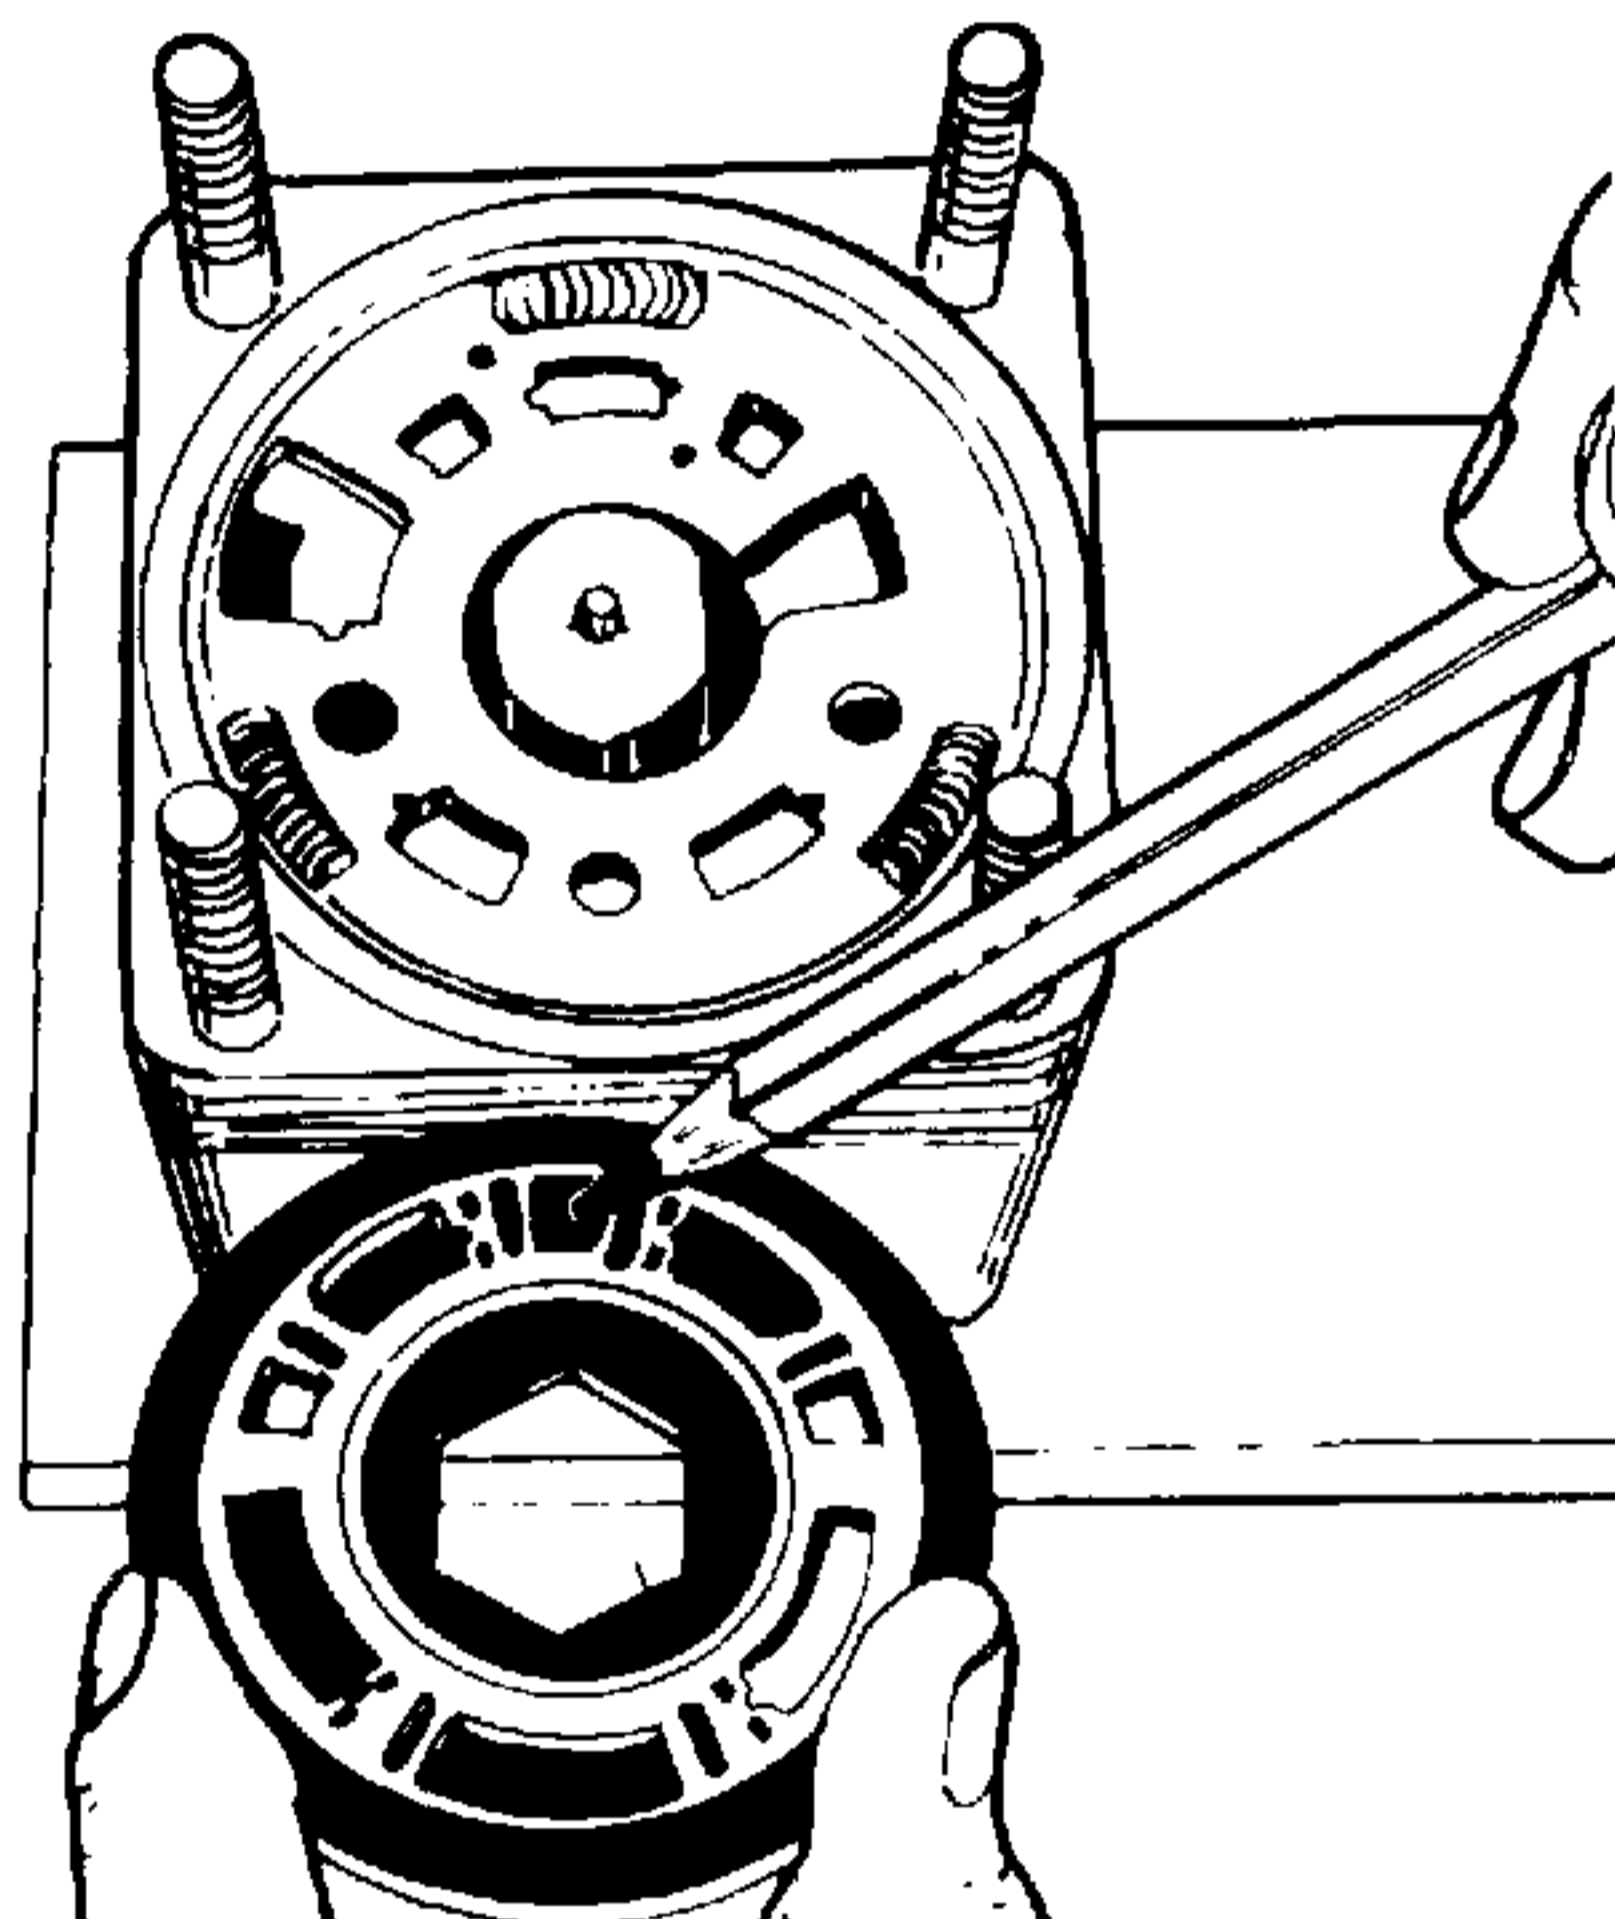

Figure 4-82. Installing the Valve Plate.
34. To install the valve plate (15, Figure 4-1) correctly, first carefully study Figures 4-82 and 4-83 for positioning of the valve plate spring slots and its other cavities in relation to the spring and spring recesses on the isolation manifold (13, Figure 4-1). Be sure to use the alignment grooves on the side of the isolation manifold for orientation.
35. Place the valve plate (15) with the surface that reads SHAFT SIDE down over the hex drive assembly (9), aligning the three spring slots centrally over the three springs placed in the spring
recesses of the isolation manifold (13). The valve plate spring slot with the small cavity and the words PORT SIDE centrally below it as pointed to in Figure 4-82, must be placed over the spring and spring recess in the isolation manifold at the top (12 o'clock) as shown in Figures 4-82 and 4-83. Adjust the valve plate position radially to centralize the spring slots over the springs and the spring recesses in the isolation manifold.